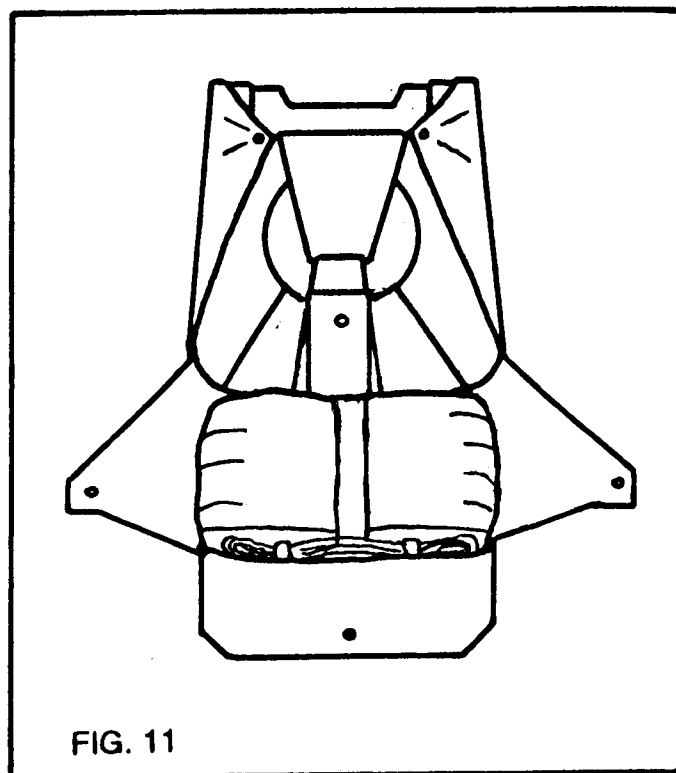

FIG. 11
6) Lay the reserve risers into the reserve container so that they lie flat with no twists. The connector links should now be in the bottom corners of the container. Thread the pullup cord thru the reserve closing loop and then pass both ends up through the grommet in the free bag. Lay the bag into the reserve container so that the line stow pouch is on the underside, and the locking stows are toward the lower end of the container. Route the bridle out the bottom of the container and close the side flaps, either side first, securing with a temporary pin (FIG. 11). Leave the tuck flaps out until all but the top flap have been closed. They will be used then to help "dress" the container.
10) Insert the pullup cord thru the container locking loop, then lift the bag straight back over the reserve container and set it in the main "pack tray". Lay the main risers flat against the sides of the reserve container and snap the riser covers closed over them. See FIG. 11. (Be sure that the line stows of the main bag are always toward the bottom of the container. If the bag is turned so that the line stows are toward the top, it may require more force for the pilot chute to extract the bag from the container.)